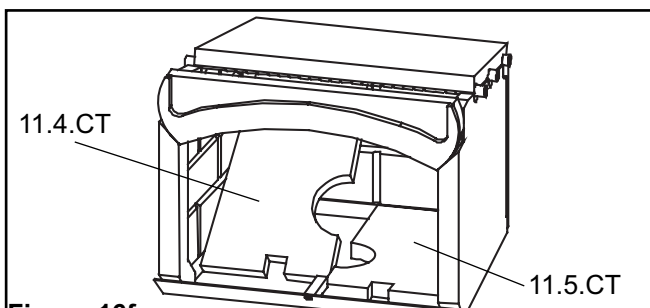

Figure 16f
- 8. Install the 2 bottom refractory bricks in the firebox (11.4.T on the left and 11.5.T on the right). To facilitate the installation, remove the plug and insert the refractory bricks as shown in Figure 16f. First, slide the bottom refractory brick below the square tube located at the front floor of the firebox. Then install the right refractory brick in the same fashion. Replace the plug.